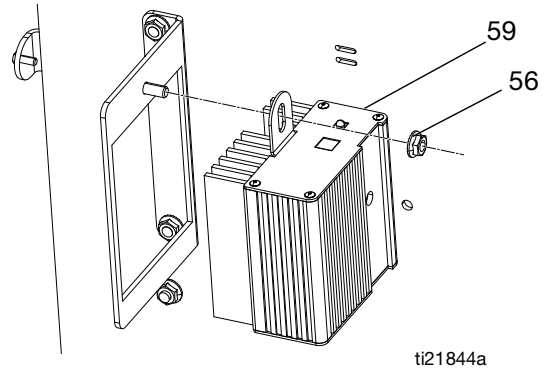

FIG. 13
3. Remove the heater shroud (90) and the electronics cover (55). See FIG. 13, page 46.
4. Loosen and remove the temperature control module bracket mounting fasteners (56). Move the control module up and out of the way to access the thermocouple.
- a. Remove the protective tape from the thermocouple tip (TT).
- b. Apply PTFE tape and thread sealant to male threads and tighten the thermocouple housing (TH) into the adapter (305).
- c. Push in the thermocouple (310) so the thermocouple tip (TT) contacts the heater element (307).
- d. Holding the thermocouple tip (TT) against the heater element, tighten the ferrule nut (FN) 1/4 turn past tight.
9. Route the wires (TW) into the cart and thread into a bundle as before. Reconnect the wires to the board.
10. Replace the heater shroud (90) and the electronics cover (55). See FIG. 13, page 46.
11. Turn on the heaters ISO and RES simultaneously to test. Temperatures should rise at same rate. If one heater is low, loosen the ferrule nut (FN) and tighten the thermocouple housing (TH) to ensure the thermocouple tip (TT) contacts the element (307).